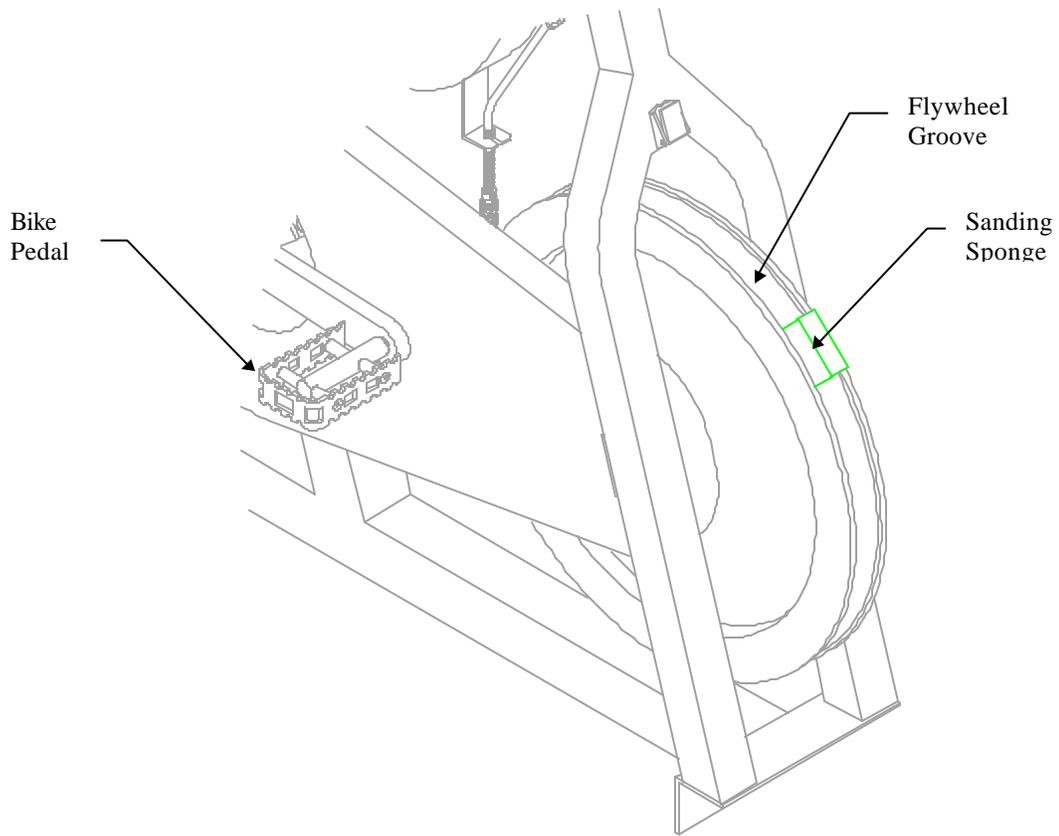

Figure 5
1. Remove the friction belt from the flywheel (Figure 5).
*Use extreme caution when sanding flywheel. When sanding flywheel position sanding sponge on the flywheel as shown in Figure 5, keeping hands, fingers, clothes, etc. away from bike frame to avoid them from getting snagged or pinched. Failure to follow instructions could result in serious injury.*
3. While rotating the flywheel (possibly by having someone *slowly* pedal the bike) hold the sanding sponge in the groove of the flywheel (as shown in Figure 5). Clean the groove with a dry cloth removing all debris created from sanding sponge. Replace friction belt.